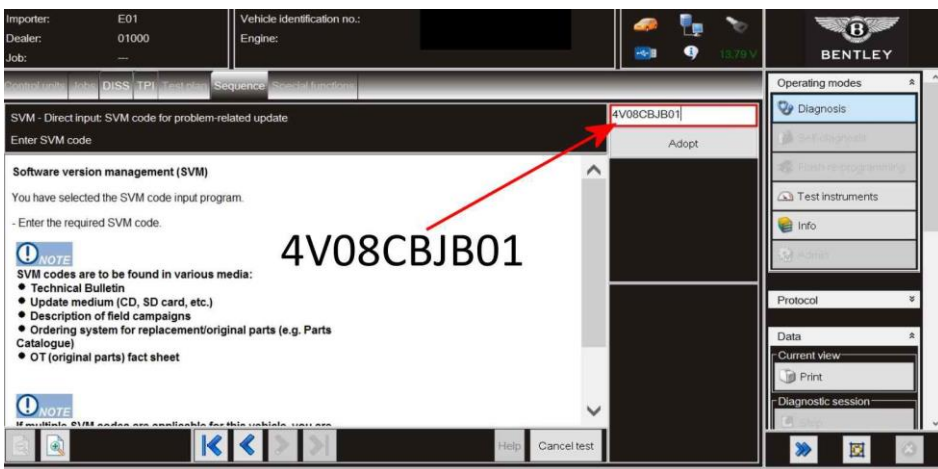

Figure 3
3) On the next screen enter the SVM code 4V08CJB01 and select Adopt (Figure 3)